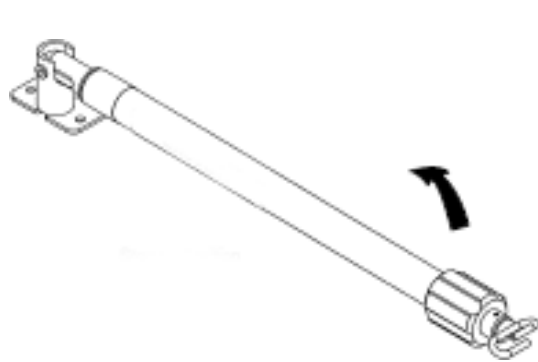
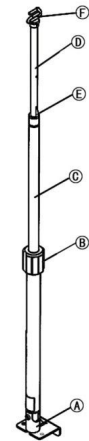

Figure 13
Figure 14
- 4. The serum bag can be hung on the hook labeled with the letter F. (Figure 13 and Figure 14)